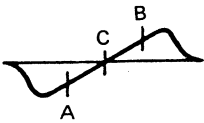

Fig. 6
2. Use the T202 core to form the S-curve shown in Figure 6. Adjust the symmetry of A and B about point C for linearity.